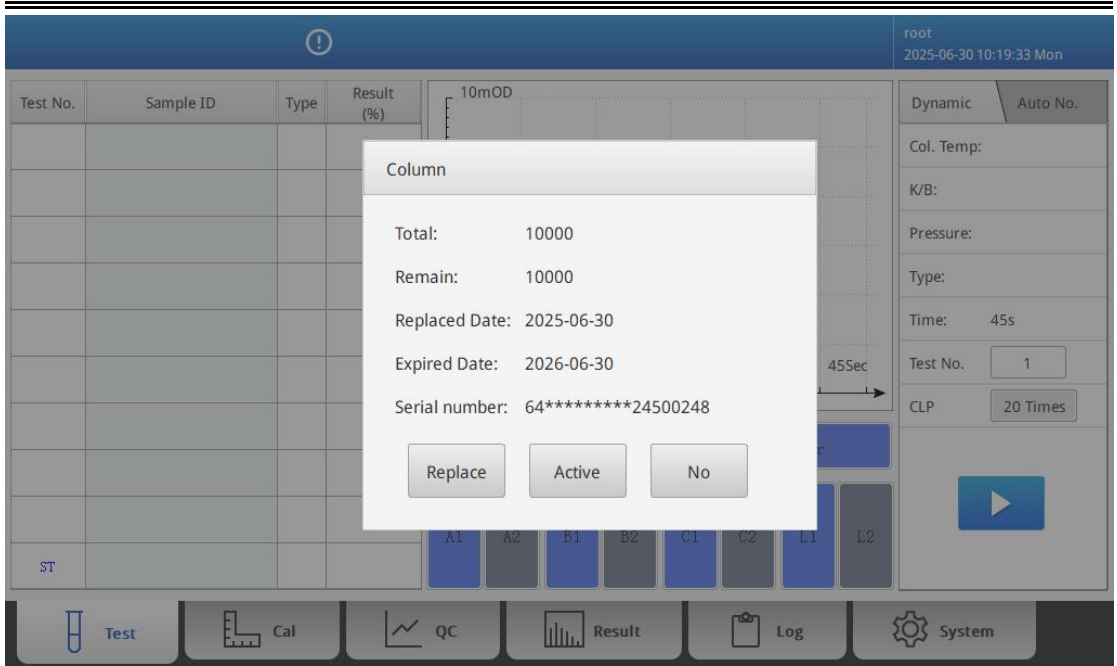
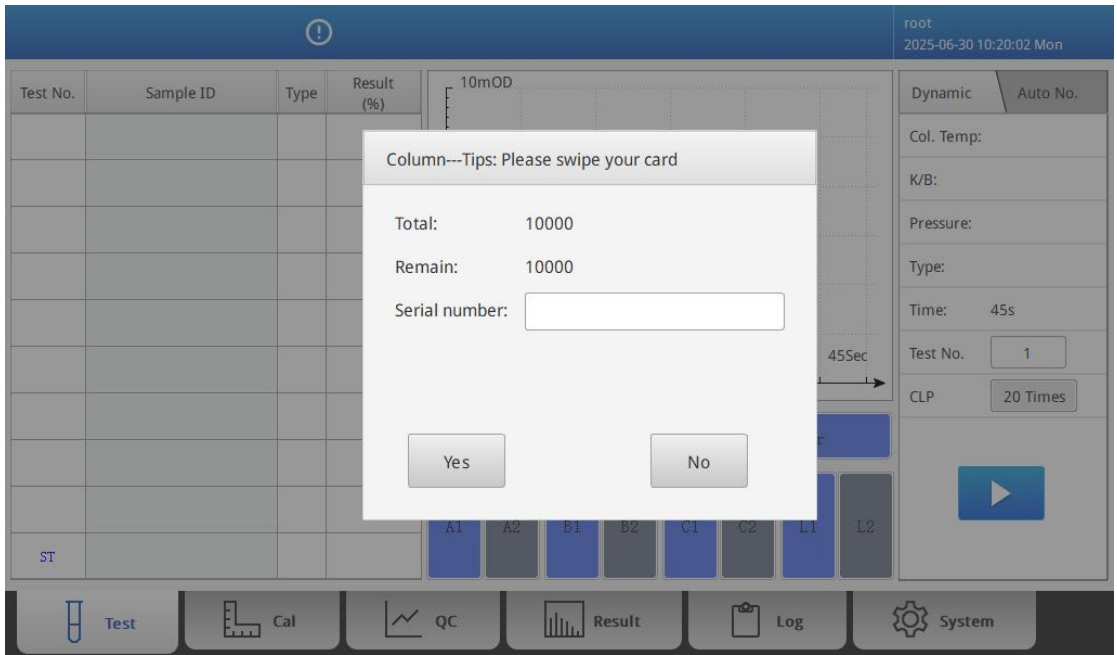

Fig 4-4 View of Column Installation Procedure(1)
Fig 4-5 View of Column Installation Procedure(2)
- 2) Enter the “Test” interface, press the “Column” icon, a prompt will show as **Fig 4-4** below. Press “Replace”, a prompt will show as **Fig 4-5**.